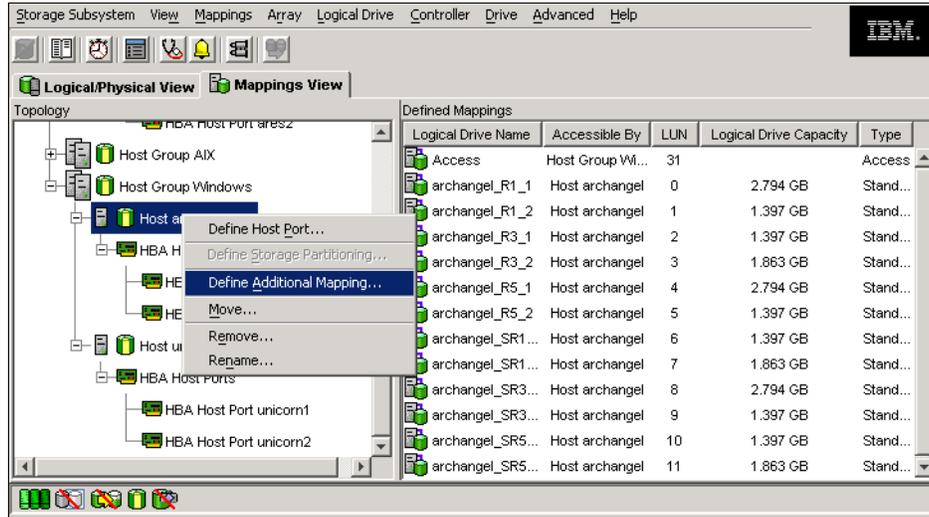

Figure 5-72 Define Additional Mapping
1. Right-click the host or group to which you want to map a new logical drive. Select **Define Additional Mapping**, as you can see in Figure 5-72.